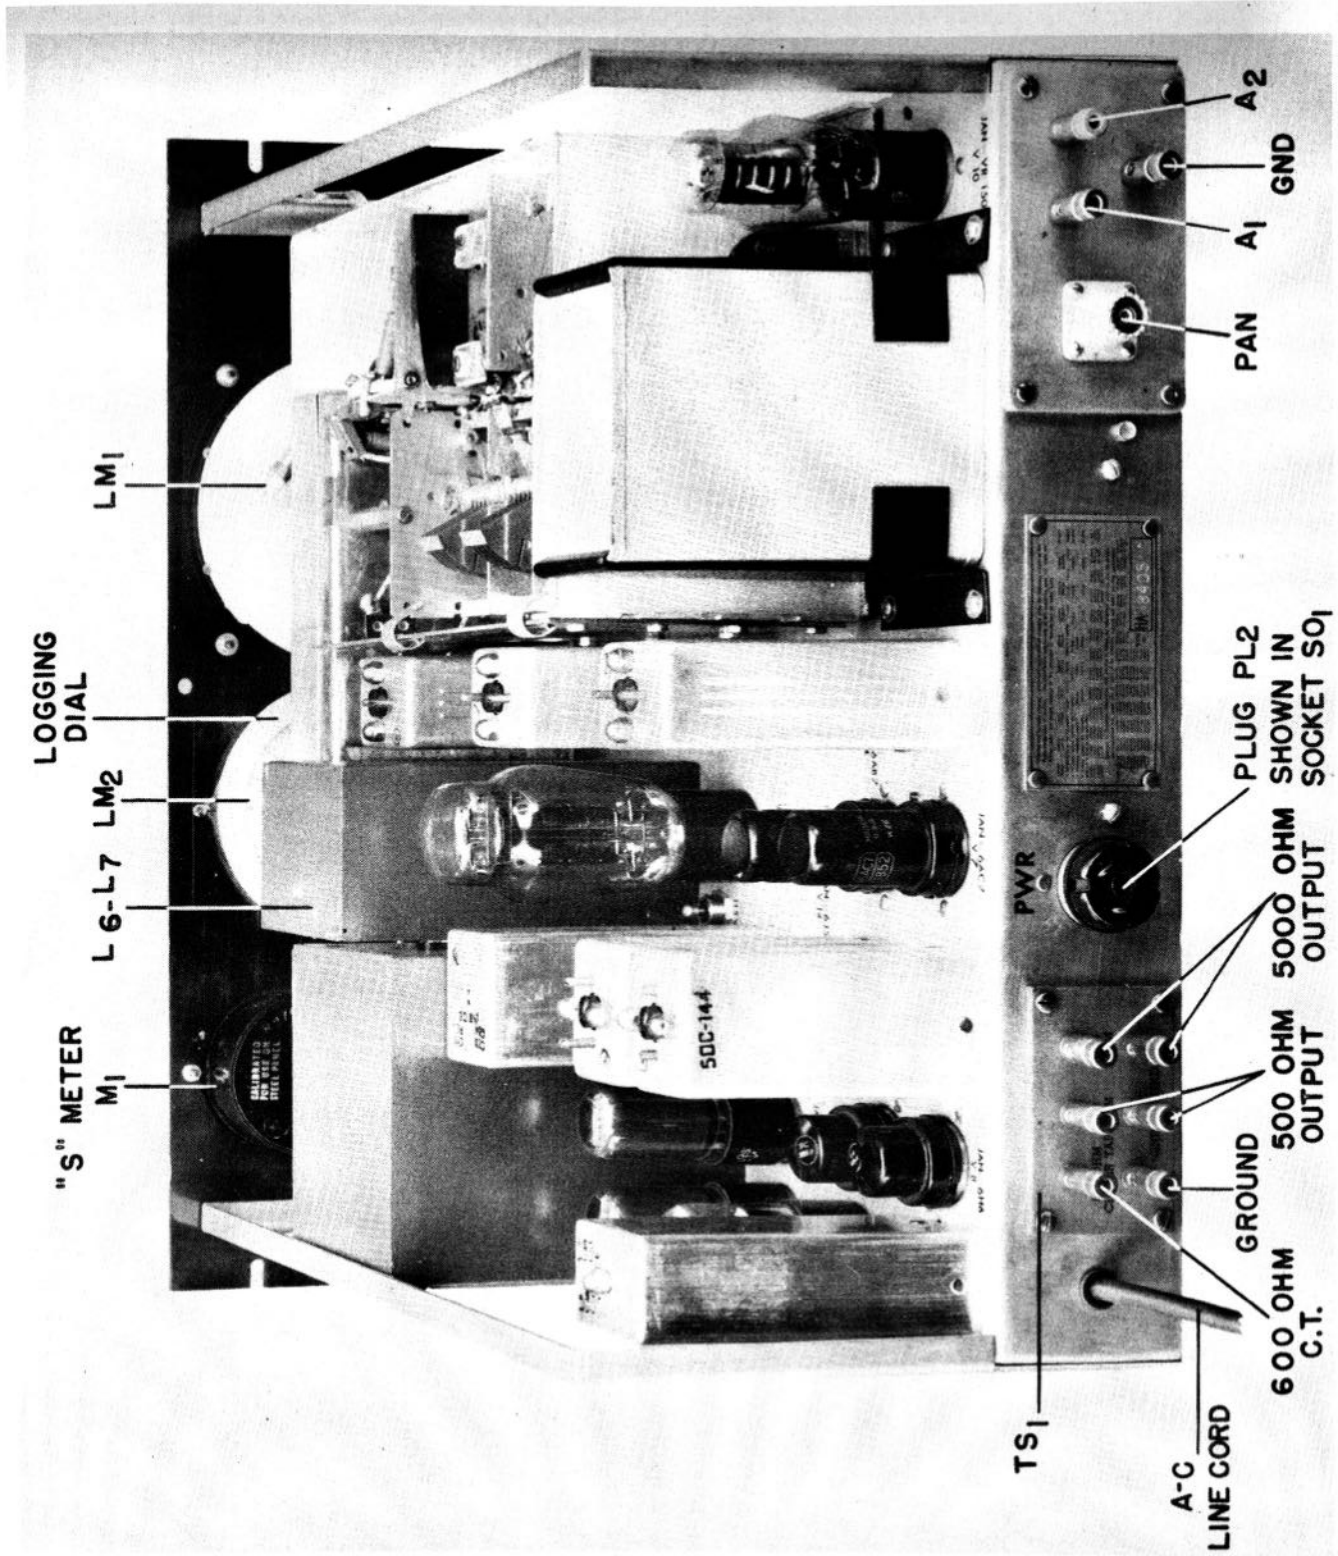

Figure 6. Radio Receiver CHL-46130-C, Top Rear View
a. Signals picked up by the antenna enter the receiver through the antenna binding posts on terminal strip TS₂ (Marked A₁ and A₂.) on the rear apron of the chassis. (Refer to figure 6) The signal is fed to the radio frequency amplifier tube (V₁) through the antenna transformer (T₃). The secondary of this transformer (T₃) is tuned by capacitor C_{1A} and trimmed by capacitor C₂.
d. A shielded lead from the plate circuit of the converter tube (V₂) feeds the intermediate frequency signal voltage, through an isolating resistor (R₇₁), to a panoramic adapter connection. This output connection is an Amphenol type 83-LR coaxial socket. It is located on terminal strip TS₂, on the rear apron of the chassis. Refer to figure 6.